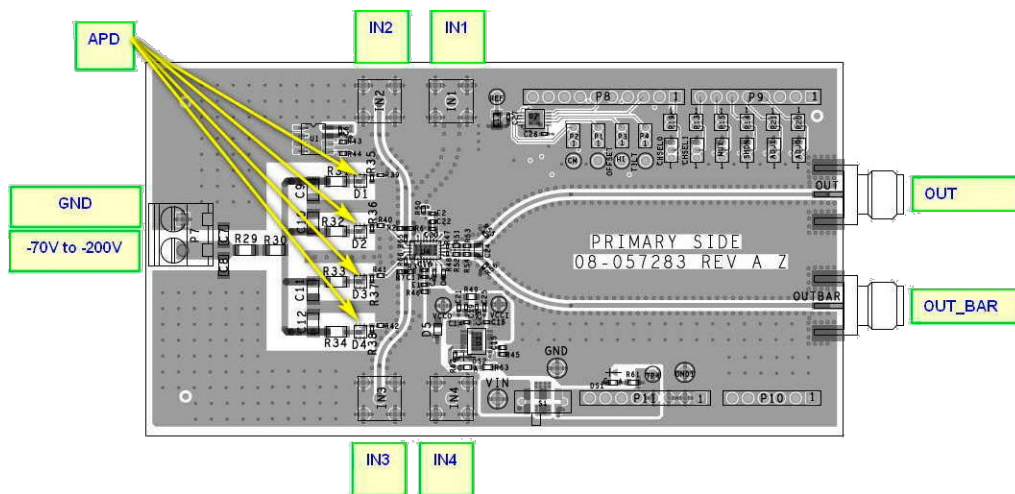

Figure 1. Connection Diagram (IN1 to IN4 Optional for Electrical Testing Only)
10. Using an external 400nm to 1100nm wavelength pulsed laser, similar to the one identified in the Equipment List as the ST micro light source, illuminate the APDs, which are identified in Figure 1. With the default board setting which selects IN1 or Ch1 (CHSELO = CHSEL1 = 0), position the laser to illuminate the Ch1 APD (D1).